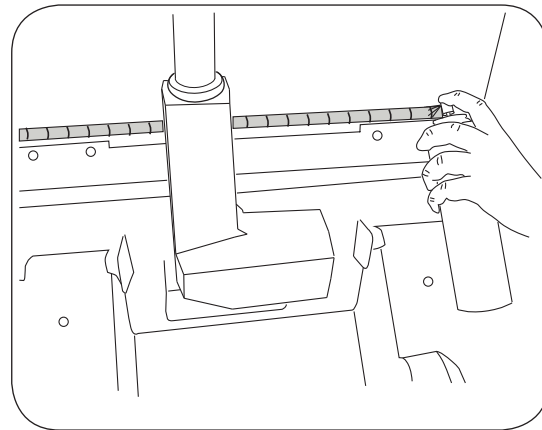

Figure 41. Pelvic Tilt Adjustment
- Lubricate the backrest hinge with a food grade silicon lubricant (Figure 41). Cover surrounding area with cloth to protect from overspray and wipe excess.